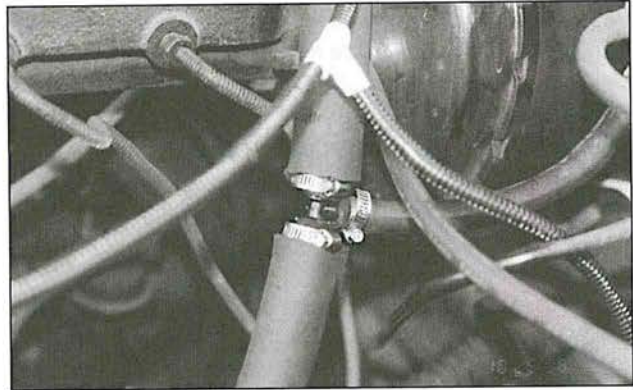

Fig. 11
### 5A. Vacuum supply – '89-93 vehicles (refer to Figure 11)
- Cut the vehicle's vacuum supply hose at a point where the hose is routed near the brake master cylinder (Fig 11.)